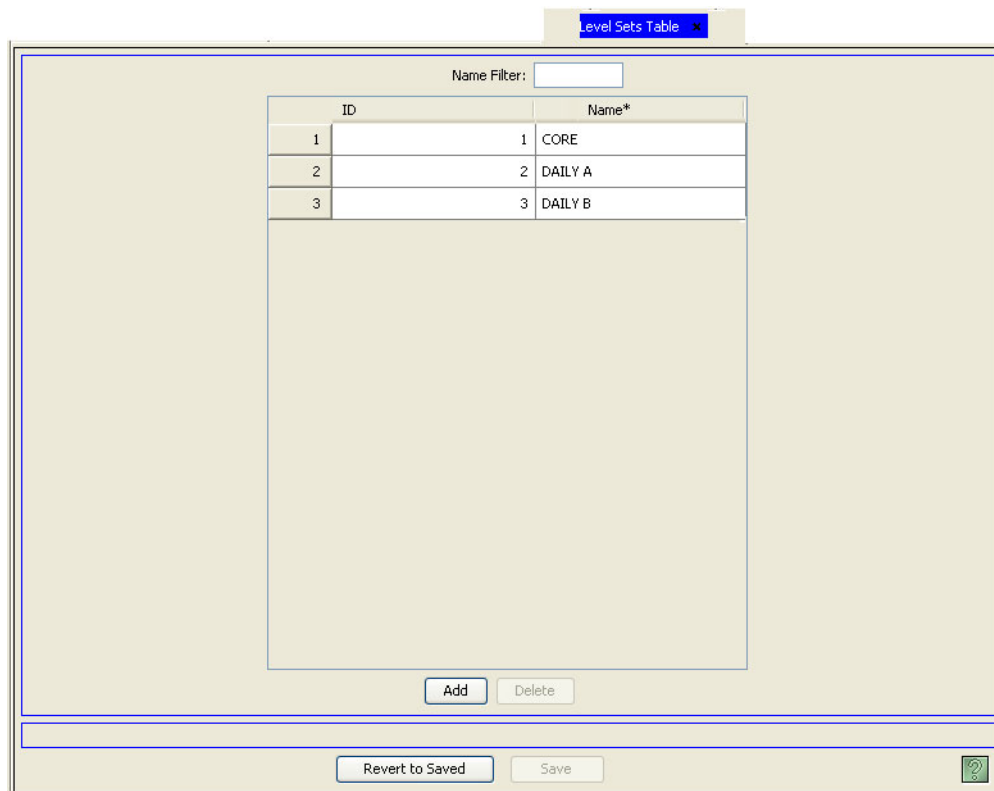

Figure 8-7. Level Sets Table
- 1 From the Navigation area, select the ‘Views’ pane and then ‘Level Sets’. The ‘Level Sets’ table appears, as shown in Figure 8-7.